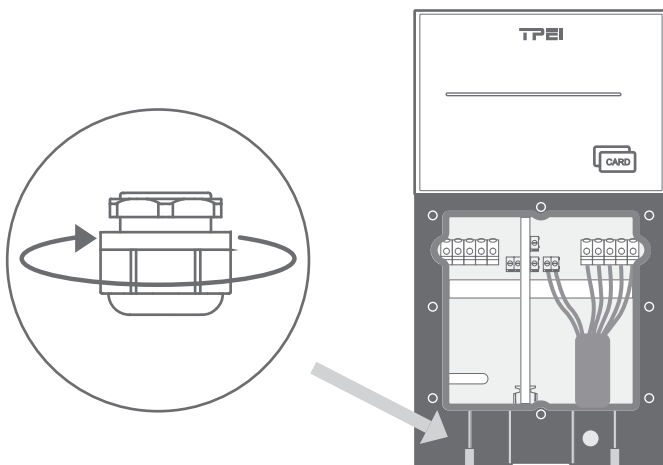

Fig. 5-12
3. Remove the gland at the bottom right of the charger. You can use a large wrench if needed. (See Fig. 5-12)